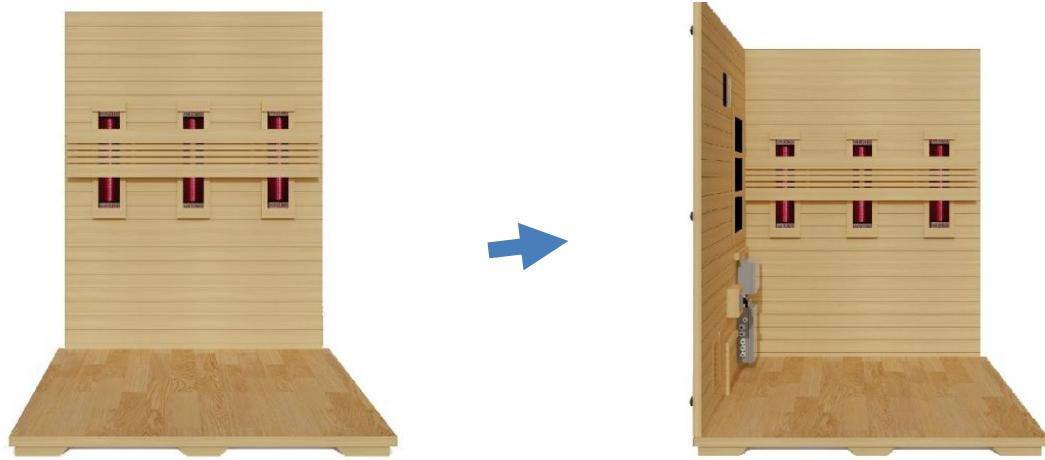

Figure 2
1. Place the LEFT SIDE WALL PANEL up and onto the FLOOR PANEL and next to the REAR WALL PANEL. Use the buckles to latch the two wall panels together. (see Figure 2)